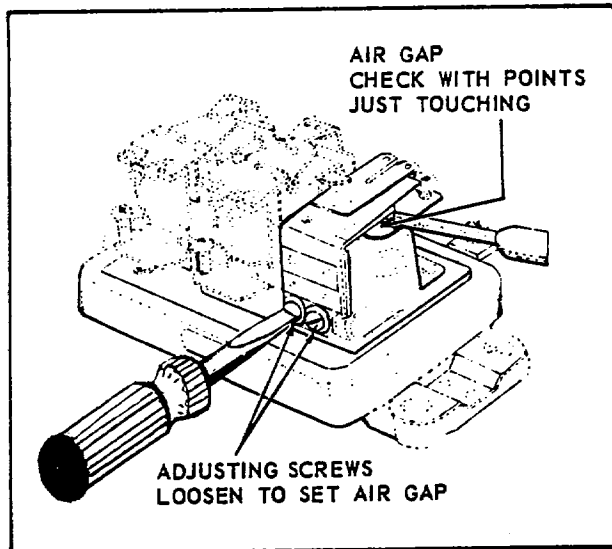

Figure 7-1B. Air Gap Adjustment
a. To check the air gap, place fingers on armature directly above the core and move armature down until points just close. Measure the air gap between the armature and the center of the core. (See figure 7-1B.) Make sure that both contact points close simultaneously. If they do not, bend spring finger as necessary. To adjust the air gap, loosen two screws at the back of relay and raise or lower the armature as required. (See Table V for the proper air gap setting.) Tighten screws securely after making final adjustment.